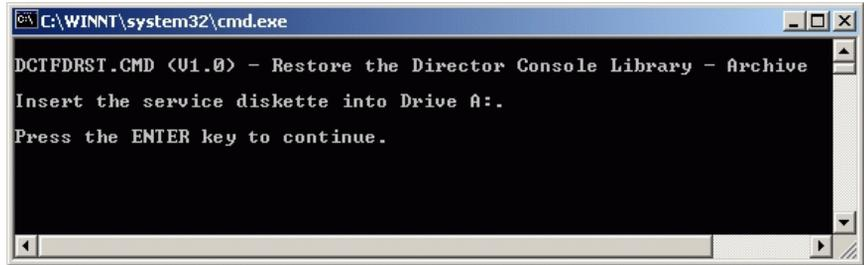

Figure 64 C:\WINNT\system32\cmd.exe Window
- b. At the *Run* dialog box, type **C:\TOOLS\DCTFDRST.CMD** in the *Open* field and click *OK*. The *C:\WINNT\system32\cmd.exe* window displays (Figure 64).